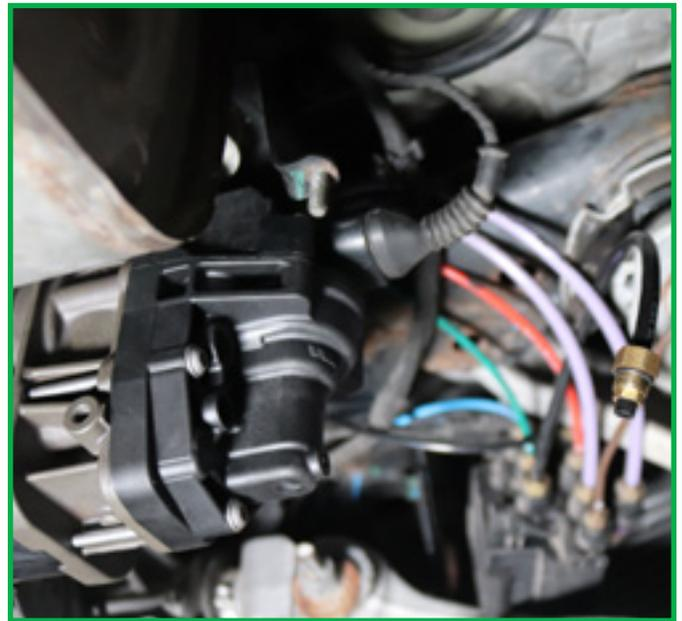

FIGURE 16
5. Reconnect the two (2) electrical connectors. (Figures 16, 17)